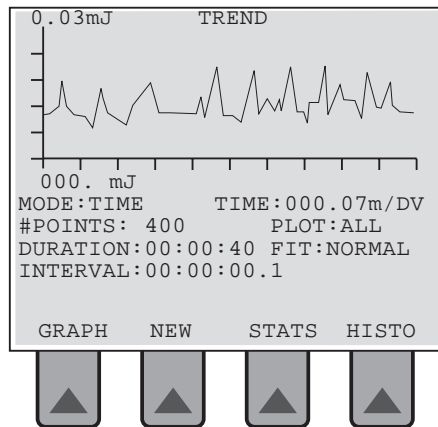
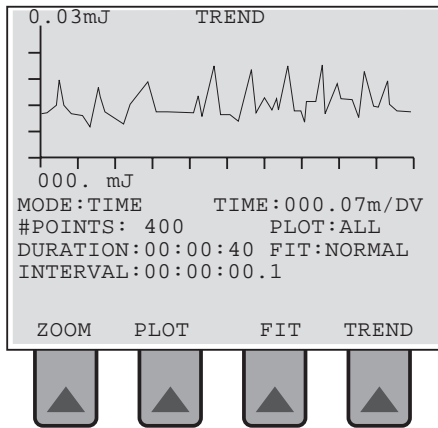
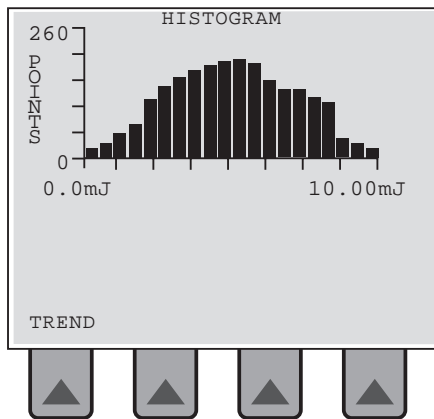

Figure 20. Start - Trend Screen - Pulse Detector
Figure 21. Graph - Trend Screen - Pulse Detector
Figure 25. Histogram - Trend Screen - Pulse Detector
Press this key to begin measurement collection using either the default settings for the parameters or the settings you entered through the Setup soft key. When pressed, measurements begin as observed on the graph and plotted continuously until a selected duration has been reached. A display similar to Figure 20 then appears.
Soft keys on Figure 20 are described below.
**GRAPH** - Press this key to graphically view the collected measurements as described below. When pressed, a screen similar to Figure 21 appears.
Press the TRENDS soft key to return to the completed Start screen (Figure 20).
Press Return to go back to Figure 21 and then press Trend to return to the Trend screen shown in Figure 20.
Pressing the TRENDS soft key returns you to the screen shown in Figure 20. This allows you to select another method of viewing the results of data collection within the same frame of data collection reference, or to start the process again.
**HISTO** - Press this soft key to view a histogram of the results of measurements collected. The screen which appears will be similar to Figure 25. Pressing the TREND soft key returns you to the Trend screen shown in Figure 20.